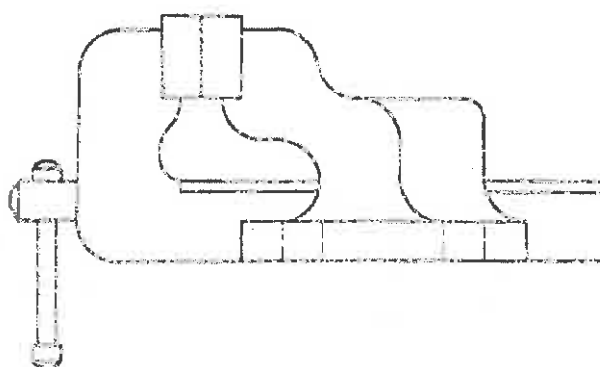

Figure 7
- 6.4 Figure 7 shows a product made from a ceramic material. Identify the product and the material and briefly describe the process used to make it. (5)